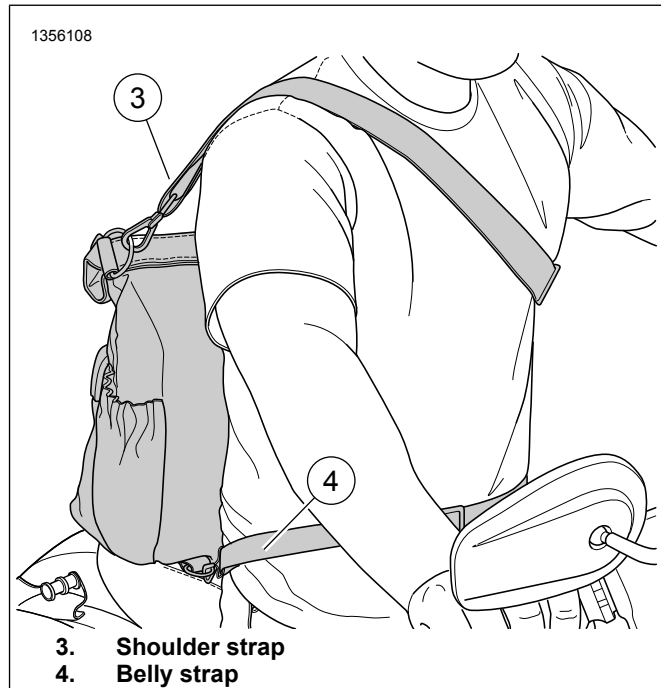

Figure 7. Messenger Bag
1. See Figure 1 and Figure 7. Attach shoulder strap (3) to D-rings on bag (1).
2. Attach one end of belly strap (4) to D-ring on bottom of bag (1).
3. Position bag (1) on self.
4. Attach the other end of belly strap (4) across torso to D-ring on bottom of bag (1).
5. Adjust belly strap (4) and shoulder strap (3) to ensure a snug fit.